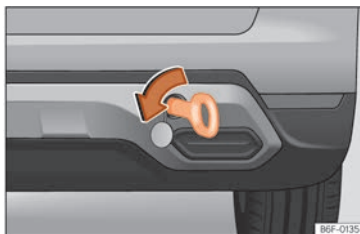

Fig. 47 On the right side of the rear bumper: towline anchorage in position.
- Screw the towline anchorage into the housing by turning it as far as it will go **anticlockwise** »» Fig. 47 »» ❶. Use a suitable object that can completely and securely tighten the towing eye in its housing.
❶ CAUTION